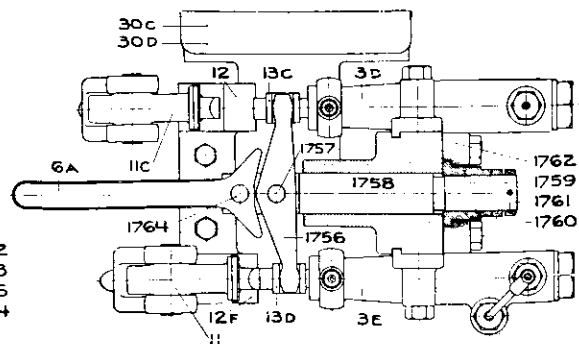

Fig. 7.
For direct reversible engines provided with coordinating fuel pump plungers and having a special pump for reversing, the governing is done by the forward regulator weight (11 C) only, the aft regulator weight (11) working on a plane surface (12 F fig. 7) without cam.